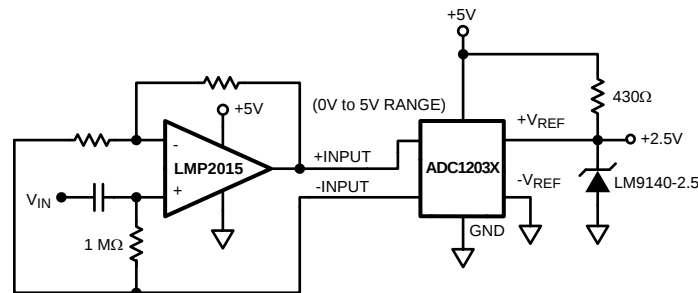
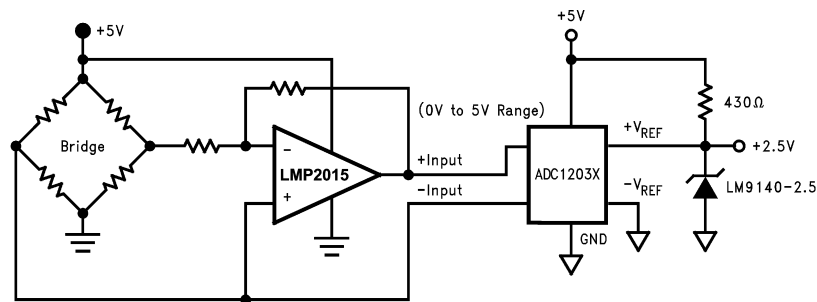

Figure 37. AC Coupled ADC Driver
Figure 38. DC Coupled ADC Driver
The LMP2015 is a great choice for an amplifier stage immediately before the input of an ADC (Analog-to-Digital Converter) as an ADC driver, whether AC or DC coupled. See Figure 37 and Figure 38. This is because of the following important characteristics:
- E) Rail-to-Rail output swing maximizes the ADC dynamic range in 5V single supply converter applications. Figure 37 and Figure 38 are typical block diagrams showing the LMP2015 used as an ADC driver.